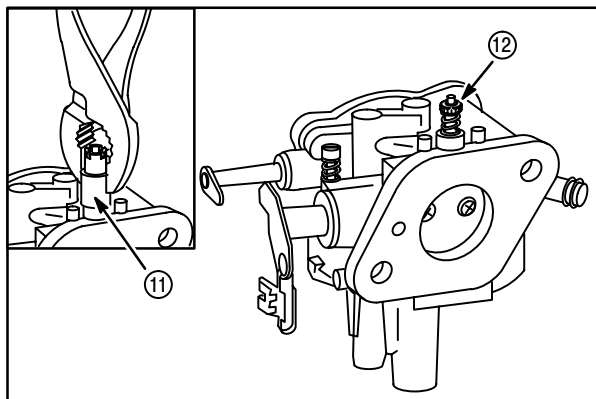

Fig. 27
7. Use a pliers to remove the idle mixture screw adjustment limiter cap (11) if equipped, **Fig. 27**.
8. Remove the idle mixture screw (12).